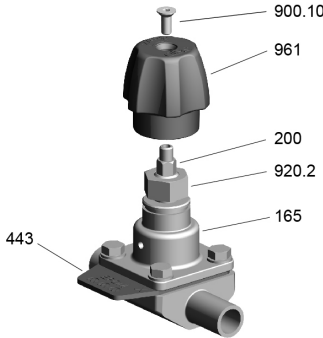

Fig. 10: SISTO-C HV.510/.520 MD 30: Setting the closed-position travel stop
5. Fit and tighten screw 900.10 in handwheel 961. This secures stem 200. (⇒ Fig. 10)